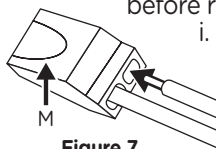

Figure 7
- Connect the house AC power supply ground wire (green or bare copper) by pushing into the Push-in quick wire connector (M) with the green/yellow wire.
- Connect the house AC power supply neutral (white) wire by pushing into the Push-in quick wire connector (M) with the white wire.
- g. Connect the house AC power supply line (black) wire by pushing into the Push-in quick wire connector (M) with the black wire (see **Figure 7**).
- h. If house power supply electrical connections were made to the Push-in quick wire connectors (M) before ensuring they were routed through the correct back mounting plate (L) hole or before routing through the gasket (H):